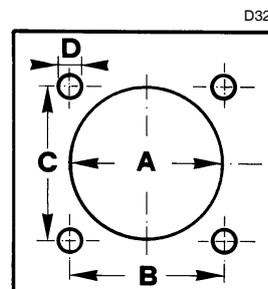

Fig. 10
Drill the combustion chamber locking plate as shown in Fig. 10. The position of the threaded holes can be marked using the thermal screen supplied with the burner.
- Remove the screws (2) from the two slide bars (3).
- Remove the screws (1) that secure the blast tube (6) to the burner (4).
Fasten the blast tube (6) to the boiler plate (Fig. 10 on page 15), inserting the gasket provided (5). Use the 4 screws provided after